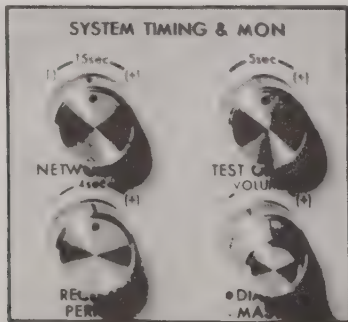

Fig. 8—System Timing & Monitor Controls
3.14 The four system timing and monitor controls shown in Fig. 8 are used to adjust the Model 41-3A's overall timing and monitor audio volume.